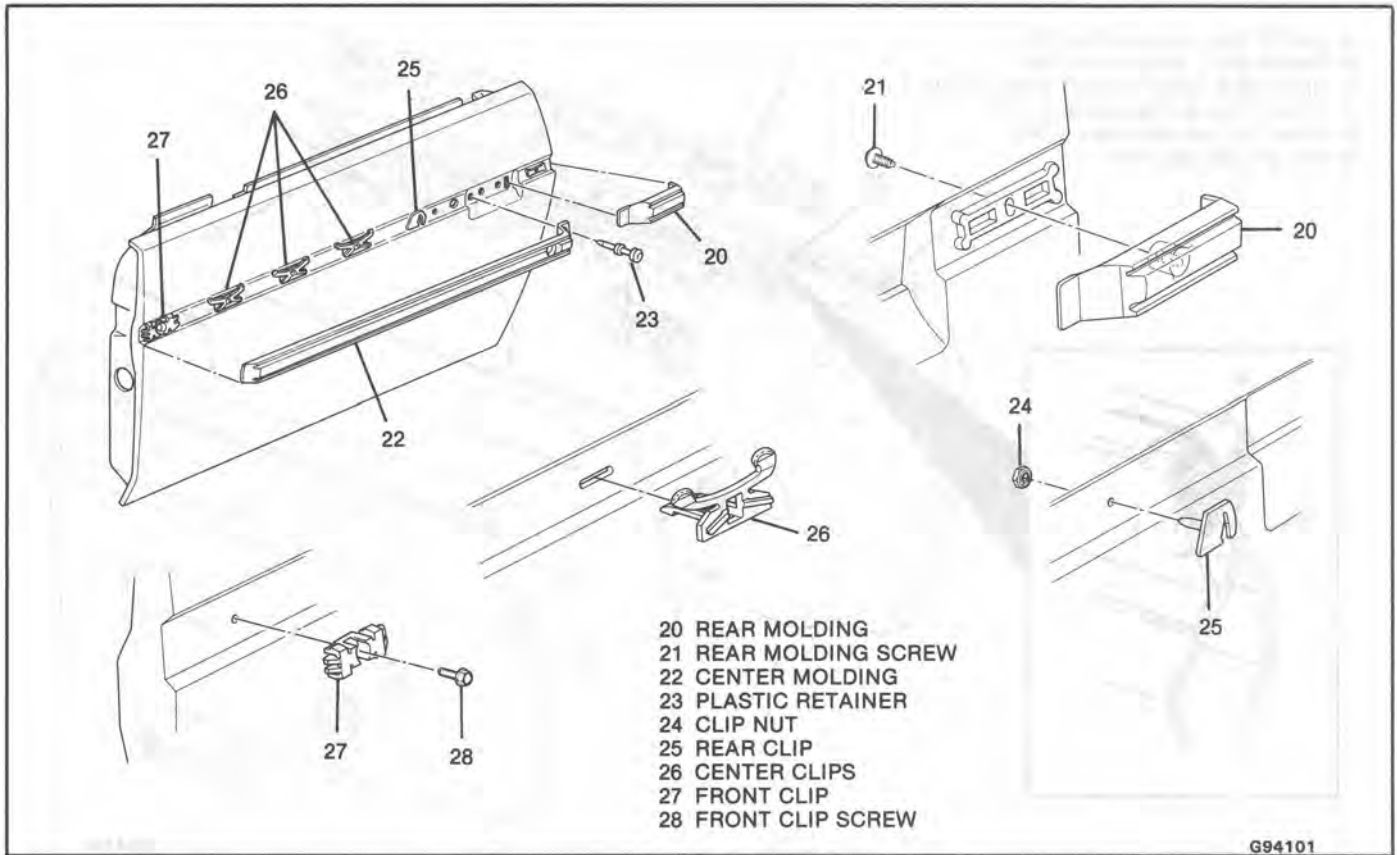

Fig. 5-Exterior Door Moldings
**EXTERIOR MOLDINGS****CENTER MOLDING ASSEMBLY****Remove or Disconnect (Figure 5)**
3. Nut (24) from rear clip (25) – put window in full-up position to allow access to nut from inside of door panel.
4. Plastic retainer, (23) at outside door handle
5. Molding assembly (22)
**Install or Connect (Figure 5)**
1. Molding assembly (22)
2. Plastic retainer (23)
3. Nut (24)
**REAR MOLDING ASSEMBLY****Remove or Disconnect (Figure 5)**
3. Nut (24) from rear clip (25)
5. Screw (21)
6. Molding (20)
1. Molding (20)
2. Screw (21)
4. Nut (24) to rear clip (25)